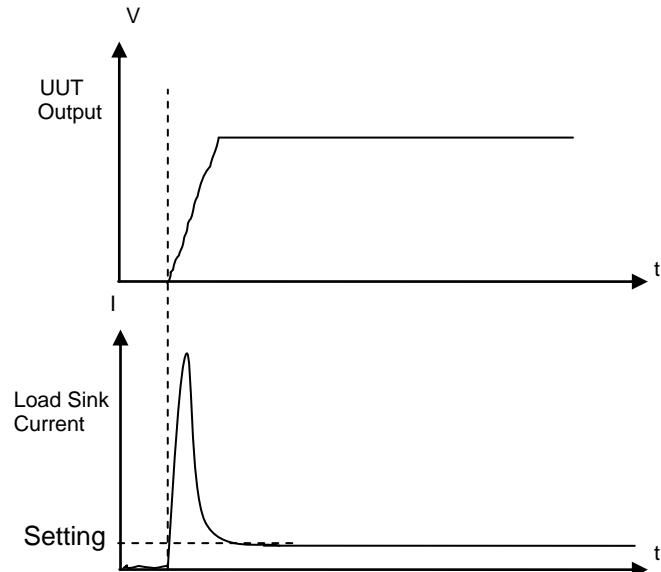

Figure 3-18 When Von Point is set to 0V without Protection
- (1) When it is “LOAD ON”, Von Point is set to 0V and Von Protection is disabled, the DC LOAD will occur overshoot when the SW is turned off. It will damage the UUT and DC Load as Figure 3-18 shows.